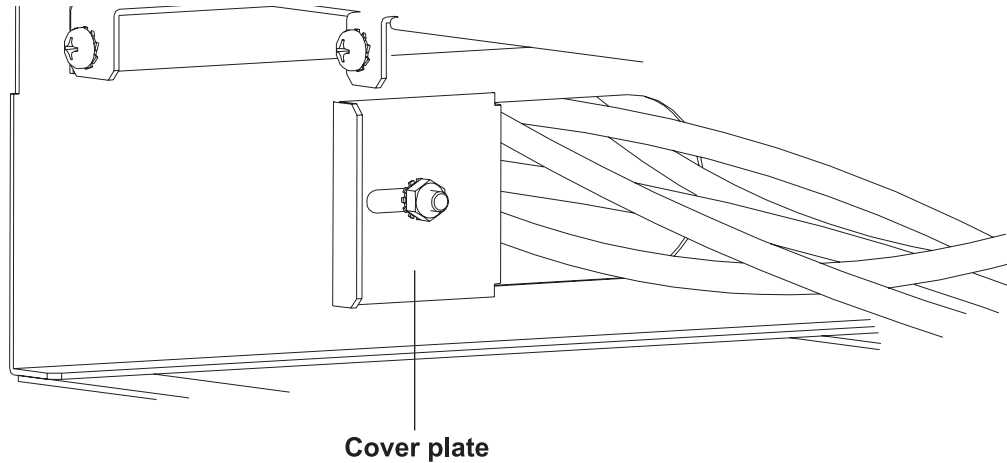

Figure 4-20 Removing the Cover Plate
2. Using a socket wrench (5.5 mm), remove the nuts on the cover plates in the signal cable connection area (see *Figure 4-20 Removing the Cover Plate*).